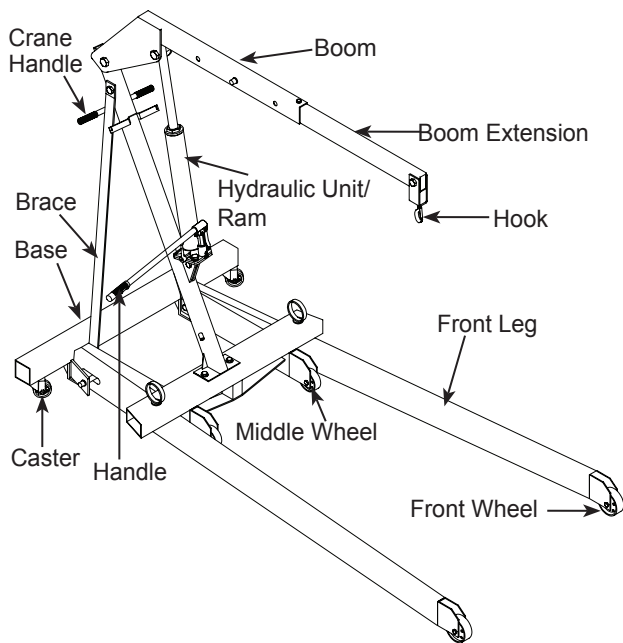

Figure 1 - Model 44010 Nomenclature
1. Make sure all parts are present (*ref. Fig. 1 & 3*). If any parts are missing or damaged, contact customer service.
2. Attach caster (2) to base (1) using M8x16 bolts and washers (4 & 3), then attach 3-1/2" wheels (5) using bolts, washers & nuts (9, 10 & 11).
3. Install the 5" wheels (13) to front legs (12) using bolts, washers & nuts (9, 10 & 11).
4. Attach two front legs (12) to base (1) using pin, "E" clip, snap pin & lock bolt (14, 15, 16 & 17).
5. Attach upright (18) to base (1) using two bolts & nuts (20 & 10). Upright must lean towards the rear of the base as shown. Leave nuts finger tight.
6. Attach two braces (21) to upright (18) with bolt, washer & nut (22, 10 & 11). Leave nut finger tight.
7. Attach the bottom of braces (21) to inside of base (1) using two each bolts & nuts (23 & 10).
8. Tighten all bolts from upright (18) to base (1), braces (21) to upright (18), and braces (21) to base (1).
9. Attach hydraulic unit (32) to the mounting bracket (28) using bolts, washers & nuts (33, 34 & 35). *Handle socket of hydraulic unit must face the front of the base as shown*. Then position the assembly between mounting ears on upright (18), and attach using bolt, washer & nut (29, 30 & 31). Tighten nut. Lean hydraulic unit assembly back against upright.
10. Connect boom (24) to upright using bolt, washer & nut (25, 26 & 27).
11. Hold boom (24) and pivot hydraulic unit (32) out away from upright. Attach the ram of hydraulic unit (39) to boom with bolt, washer & nut (37, 30 & 31). Tighten nut.